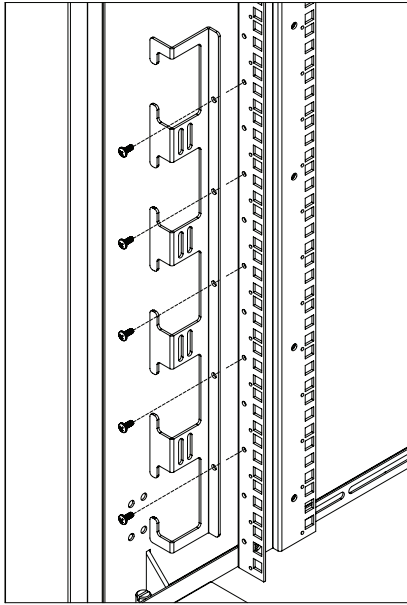
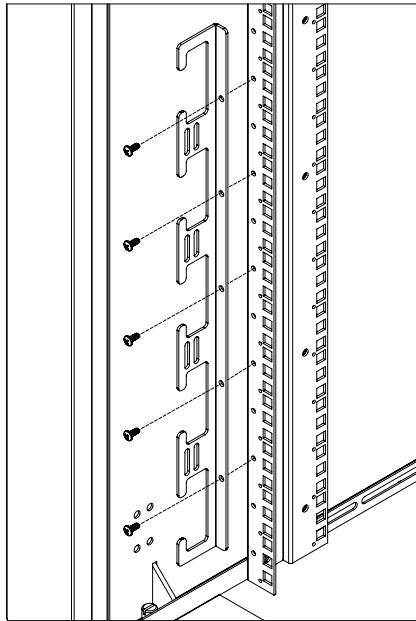

Figure 6-1. Vertical Cable Manager, Angled.
Figure 6-2. Vertical Cable Manager, Straight.
The Vertical Cable Manager, Angled is pictured in Figure 6-1. The Vertical Cable Manager, Straight is pictures in Figure 6-2.
1. Fasten the Vertical Cable Manager to the vertical rail using the included 10-32 screws (see Figures 6-1 and 6-2).